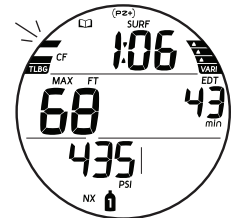

Fig. 43A - LOG DATA 1 (No Deco, Nitrox)
**Log Data 1**, information includes (Fig. 43A, B):